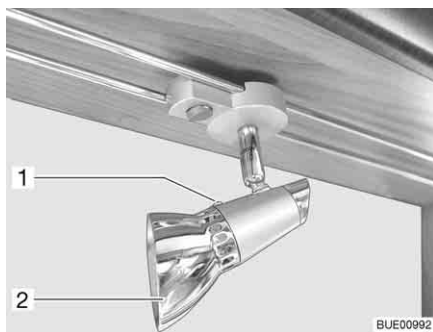

Fig. 230 Halogen spotlight (movable)
- Loosen the fixing screw (Fig. 230,1).
- Remove the lamp shade (Fig. 230,2).